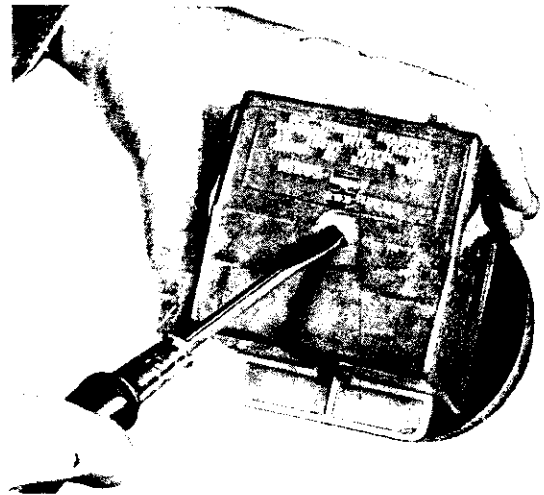

Fig. 2—Adjusting Floor Level Compensators
(3) Turn dial on side of transit until bubble in spirit level is centered.
(4) When bubble is centered, note "plus" or "minus" reading on compensator scale. This figure indicates degree of slope of floor and must be transferred to each aimer.
(5) With a screw driver, turn adjusting slot of floor level compensator in each aimer, until correct plus or minus figure (or fractional part) appears in proper window (Fig. 2).